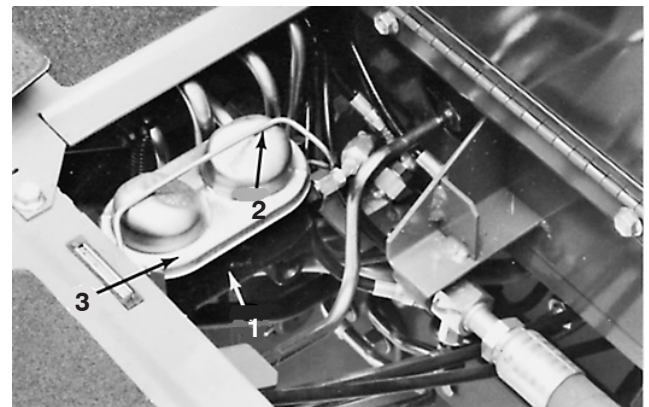
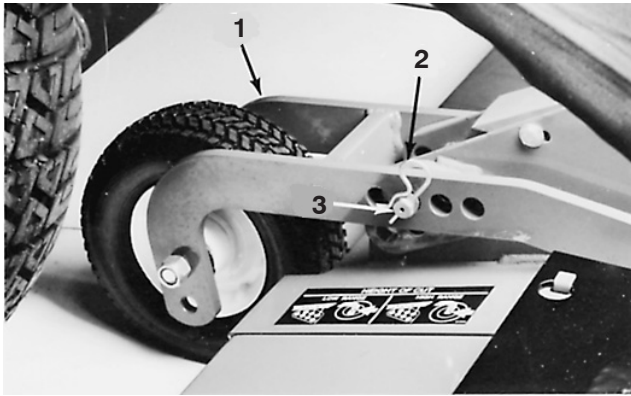

Figure 59
Figure 62
2. Snap cover bail off cover and remove cover from master cylinder (Fig. 59).
3. Remove hairpin cotters and clevis pins from the (2) rear castor assemblies (Fig. 62). Set the left hand clevis pin aside and insert the right hand clevis pin into the most forward holes in the castor wheel arm on the right side of the unit (Fig. 59). The castor arm and pin should be resting on top of the unit.